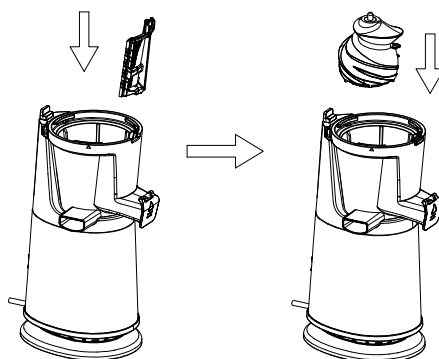

Fig. 3
2. There are three filter attachments including a fine filter, coarse filter and frozen fruit attachment. Select your preferred filter and insert it into the jar. Once in place put the grinding head into the jar (see Fig 3).